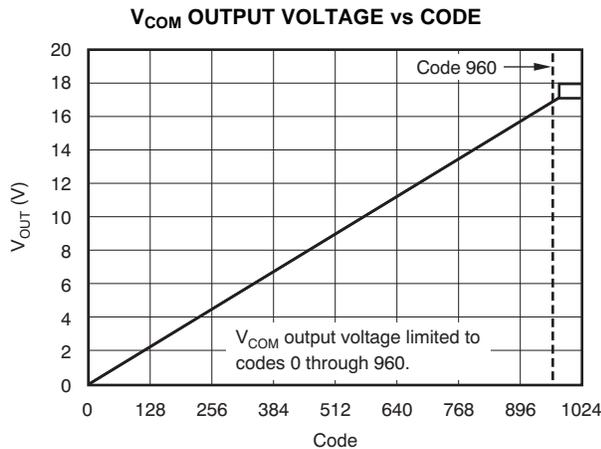

Figure 3.
(3) Observe maximum power dissipation.
(4) The V_{COM} output voltage is limited to codes 0 through 960; see Figure 3. This limitation is for V_{COM} only and does not affect DAC OUT, 1 through 8.
(5) Thermal pad attached to printed circuit board (PCB), 0l/m airflow, and 76mm x 76mm copper area.